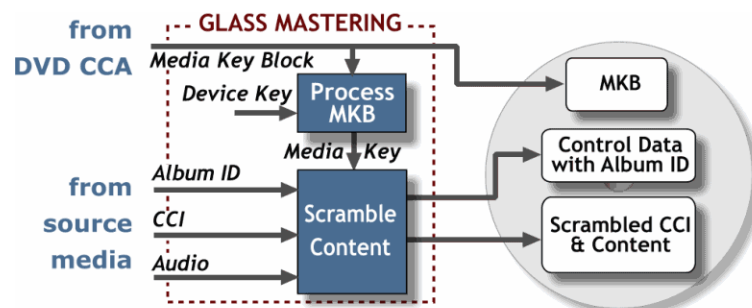

Figure 7 CPPM Encoding during Glass Mastering
- For **DVD-Audio** discs, CPPM (Content Protection for Pre-recorded Media) is used. A media key block (MKB) is used for each disc side mastered and is stored on the disc within the dummy files (DVDAUDIO.MKB and DVDAUDIO.BUP) that were created during premastering. The formatter must obtain the media key from the MKB and its unique device key before encrypting the audio data (see Figure 7). MKBs are obtained from the DVD CCA and used only once.